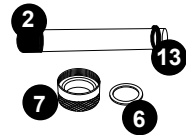

Figure 6
6. Remove the quartz seal compression nut (7) by turning it **counterclockwise**, Figure 3. Use a pair of channel-lock pliers if needed, Figure 5. You will notice that there is a stainless steel compression washer (6) that slides over the quartz tube. Save the washer (6) for later use, Figure 6. There is also a black seal ring (13), grasp the black seal ring; slowly and carefully remove the quartz tube.
7. Now you are ready to clean or replace the quartz tube (2). For the cleaning of the quartz tube (2), follow steps 8 and 9 then proceed to step 10. For replacing of the quartz tube (2), skip steps 8 and 9 and proceed to step 10.